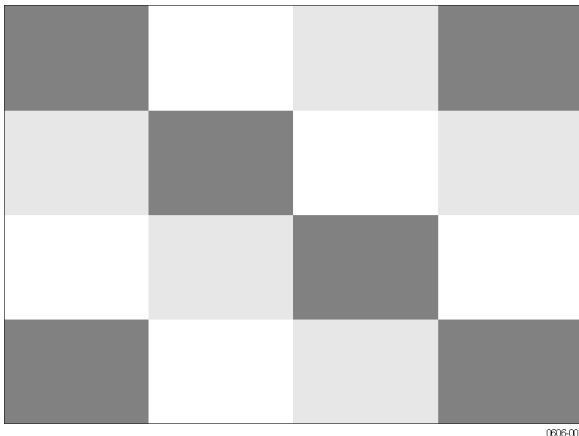

Figure 1: Display test pattern
11. Press F3 (CALIBRATE). The oscilloscope shows a test pattern at default contrast. (See Figure 1.) Observe the display closely, and verify that the display shows no abnormalities. Also verify that the contrast of the upper left and upper right square of the test pattern is equal.